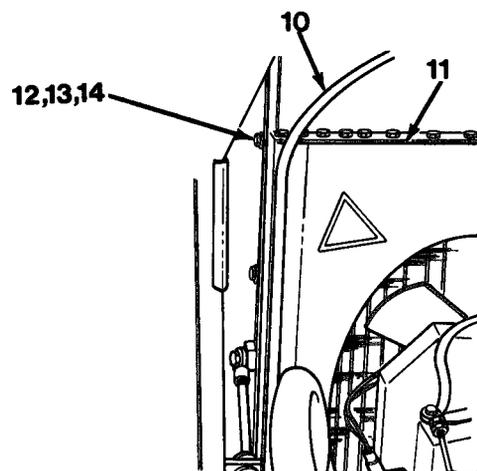

Figure 9-6
7. Remove overflow hose (10) from clips on shroud (11, Figure 9-6).
8. Remove eight capscrews (12), lockwashers (13) and washers (14) from shroud (11). Remove and support shroud (11) on engine.